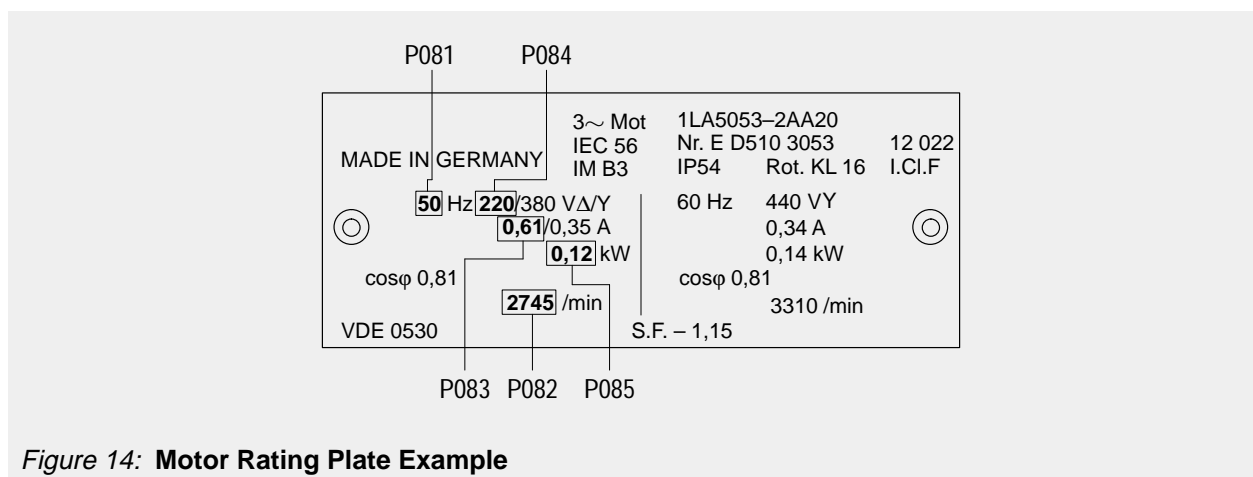

Figure 14: Motor Rating Plate Example
- (1) The inverter does not have a main power switch and is therefore live when the mains supply is connected. It waits with the output disabled for the RUN button to be pressed or for an ON signal via terminal 8 (rotate right) or terminal 9 (rotate left) – see parameters P051 – P055.
- (2) If output frequency (P001 = 0) is selected as the display, the corresponding setpoint is displayed approximately every 1.5 seconds while the inverter is stopped.
- (3) The inverter is programmed at the factory for standard applications on Siemens four-pole standard motors. When using other motors it is necessary to enter the specifications from the motor's rating plate into parameters P081 to P085 (see Figure 14). Note that access to these parameters is not possible unless P009 has been set to 002 or 003.
- (2) Set parameter P005 to the desired frequency setpoint.
- (3) Check parameters P081 to P085 and ensure that they match the requirements stated on the rating plate on the motor (see Figure 14).
- (4) Press the RUN button (I) on the inverter's front panel. The inverter will now drive the motor at the frequency set by P005.
- (3) Check that parameter P006 is set to 000 to specify digital setpoint.
- (4) Set parameter P007 to 000 to specify digital input (i.e. DIN1 (terminal 8) in this case) and disable the front panel controls.
- (5) Set parameter P005 to the desired frequency setpoint.
- (6) Set parameters P081 to P085 in accordance with the rating plate on the motor (see *Figure 14*).
- (7) Set the external on/off switch to ON. The inverter will now drive the motor at the frequency set by P005.
- (5) Set parameter P006 to 001 to specify analogue setpoint.
- (6) Set parameter P007 to 000 to specify digital input (i.e. DIN1 (terminal 8) in this case) and disable the front panel controls.
- (7) Set parameters P021 and P022 to specify the minimum and maximum output frequency settings.
- (8) Set parameters P081 to P085 in accordance with the rating plate on the motor (see *Figure 14*).
- (9) Set the external on/off switch to ON. Turn the potentiometer (or adjust the analogue control voltage) until the desired frequency is displayed on the inverter.